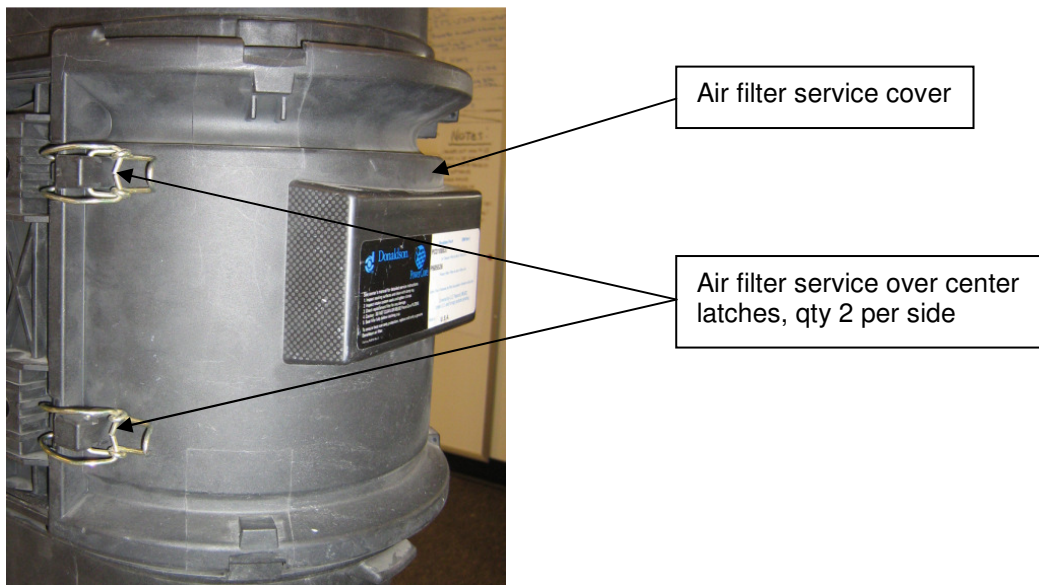

Figure 12: Air Filter Service Cover Installation
20. Install service cover with the indexed rib at the top and attach all 4 latches. If the cover doesn't seat, remove and re-check the filter position. Never use latches to force the element into place. See Figure 12.